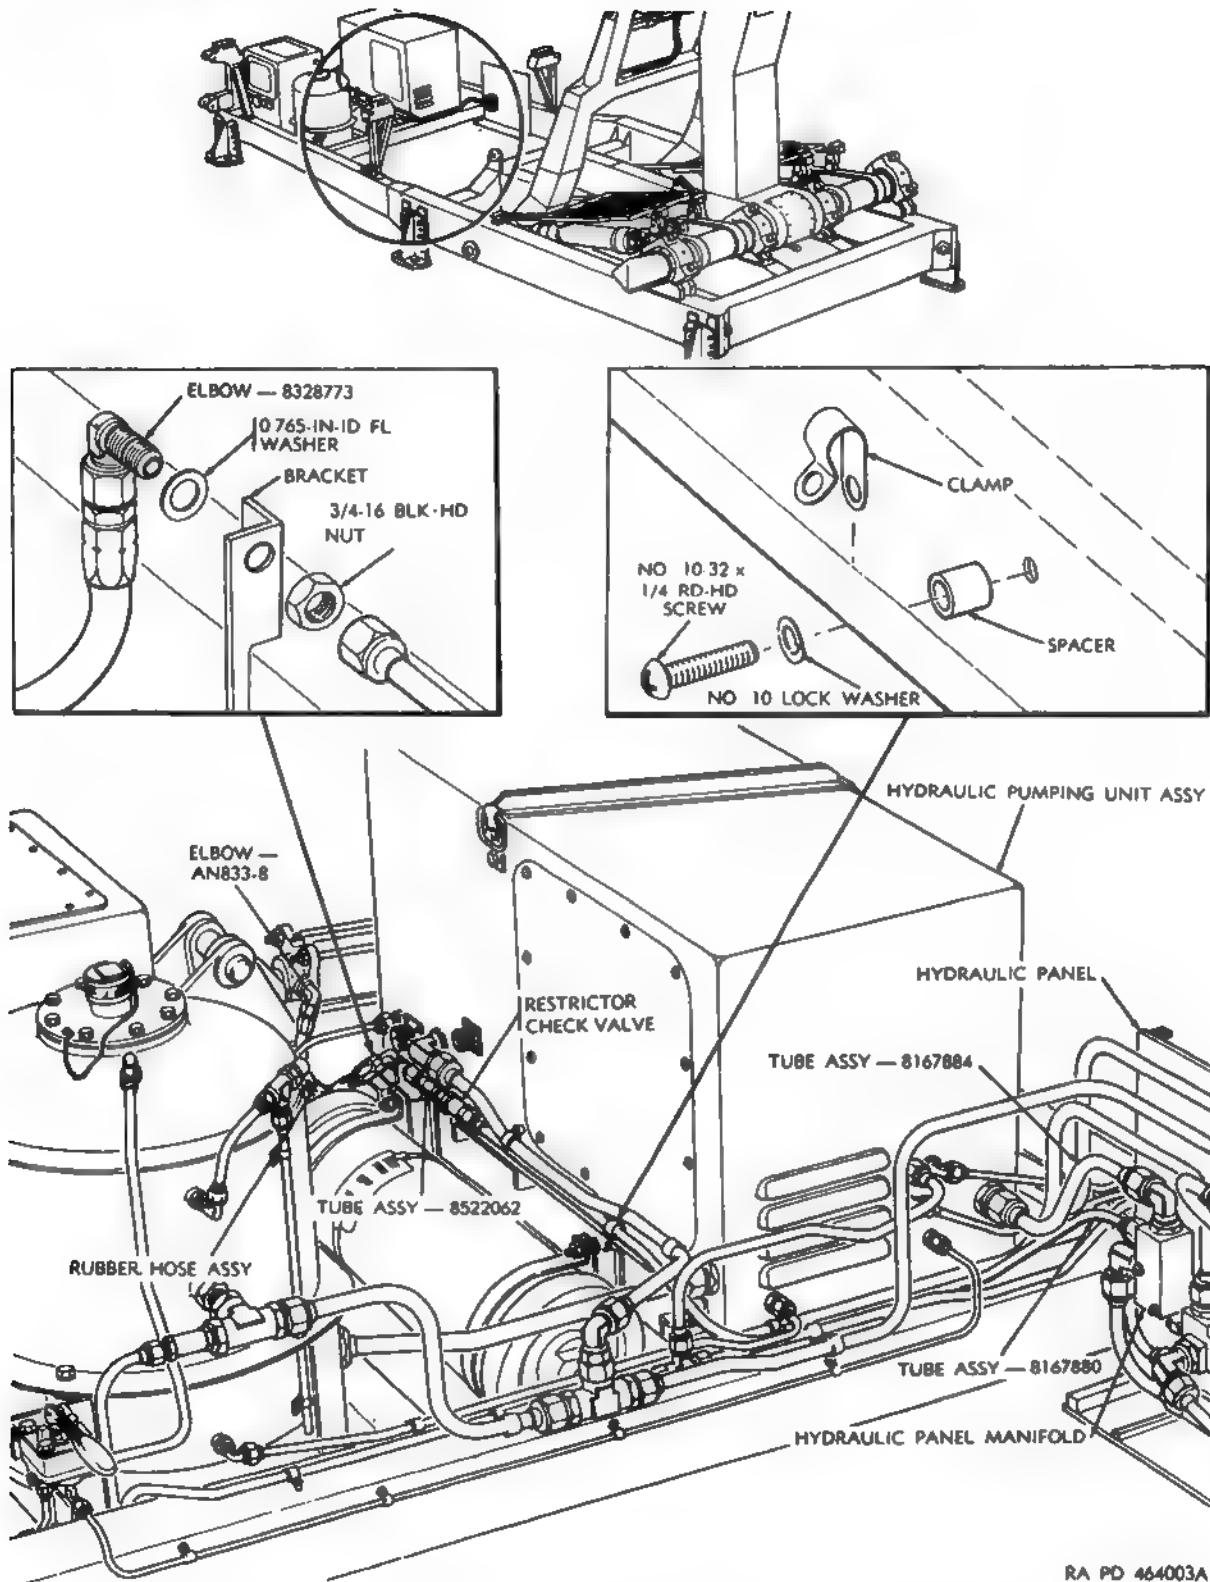

Figure 187. Hydraulic down-lock system hydraulic network—removal and installation.
- (5) Remove clamps (fig. 187), tube assemblies, elbow, restrictor check valve, and rubber hose assembly. Cap all open lines.